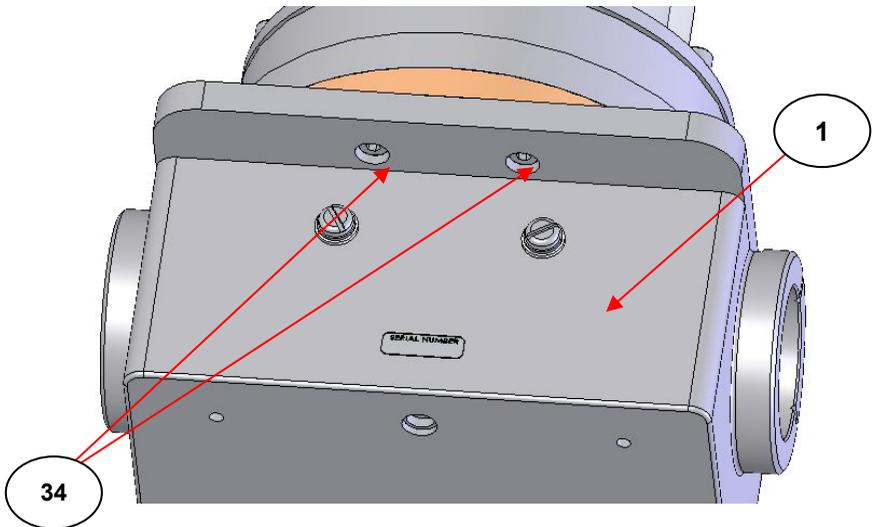

Fig 19. Rear View of Cyclone™ C5 Gas Cell Showing Fixing Screws (34) for Gas Cell to the Optical Unit (1)
The C5 gas cell is secured to the transfer optical unit (1) by four M4 x 8mm screws (34) located on the underside of the optical unit top plate. (See Figs 19 and 20.) Two of the four screws (34) at the rear of the optical unit (1) are readily accessible, but the other two screws (34) at the front of the optical unit (1) require removal of the optical unit's front cover plate (4) to gain access.